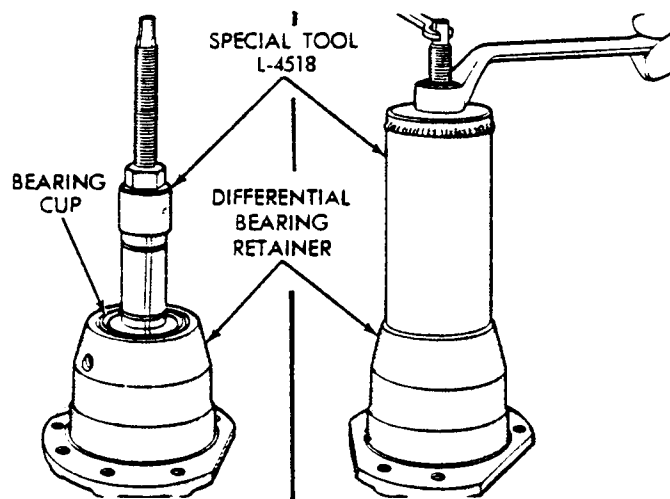

FIGURE 8
1. Remove the bearing cup from the differential bearing retainer using Tool L-4518, and remove the existing shim, from under the cup, Figure 8. The original shim should not be re-used.